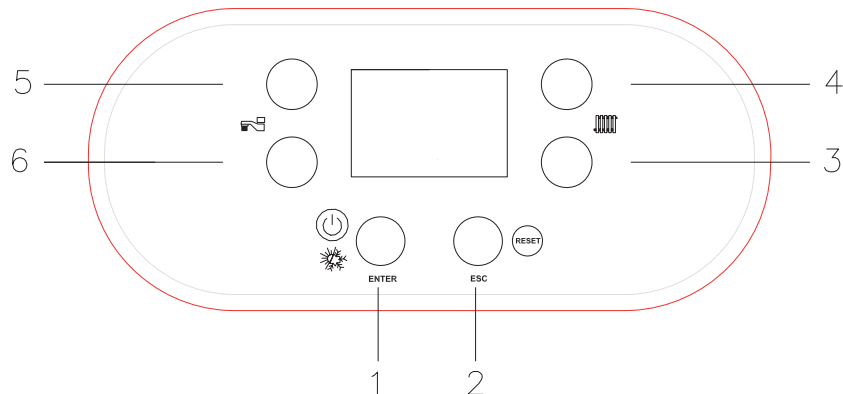

Fig. 1
In the event of an error, the appliance will show a sequence code displayed on the digital display of the control panel (fig. 1). By pressing the "RESET" button it is possible to relight the boiler (see sect. for 9 list of error codes).
Your boiler is equipped with a large LCD display that indicates the appliance operating status (fig. 1).
Press RESET button (item 2 fig. 1) and the arrow down setpoint D.H.W. button (item 6 fig. 1) together to show the boiler values.
Use the arrow up and the arrow down buttons C.H. setpoint, (item 3 and 4 fig. 1) to show the following info:
When the appliance is in rest mode, select the summer position by pressing the ON/OFF button (item 1 fig. 1) please ensure that the heating circuit is charged with water (above 1 bar).